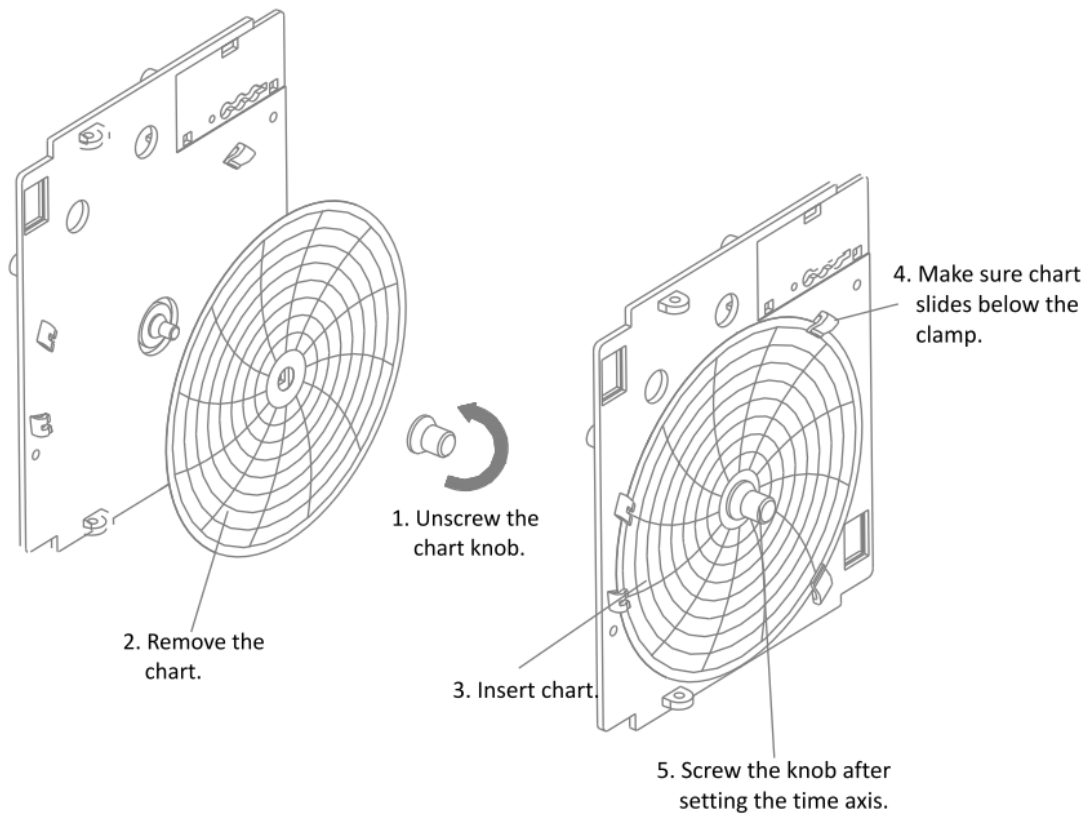

Figure 7 - Chart Fitting
2. Unscrew the chart knob as shown in figure 7.
5. Screw the knob after setting time axis. Make sure that chart slides below the clamp as shown in Figure 7.